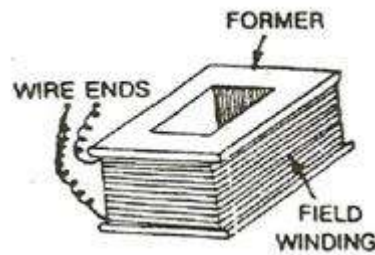

Figure.1.9. Construction of Field or Exciting Coils.
1.3.1.3. Field or Exciting Coils. Each pole core has one or more field coils placed over it to produce a magnetic field. The enamelled copper wire is used for the construction of field or exciting coils. These are wound on former and then placed around the pole core. The field or exciting coils are shown in the figure 1.9.